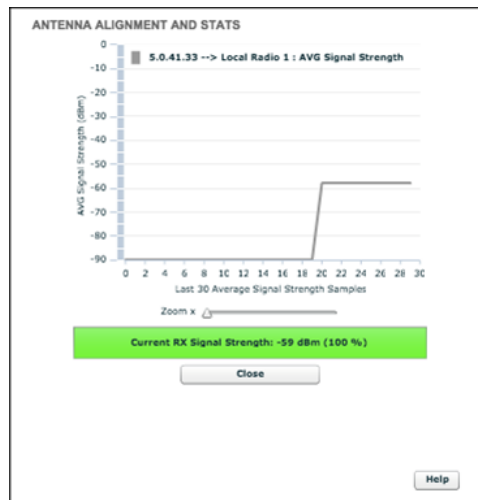

Figure 28. Antenna alignment and stats tool
- The **ANTENNA ALIGNMENT AND STATS** tool will be shown (Figure 28 (page 83)).